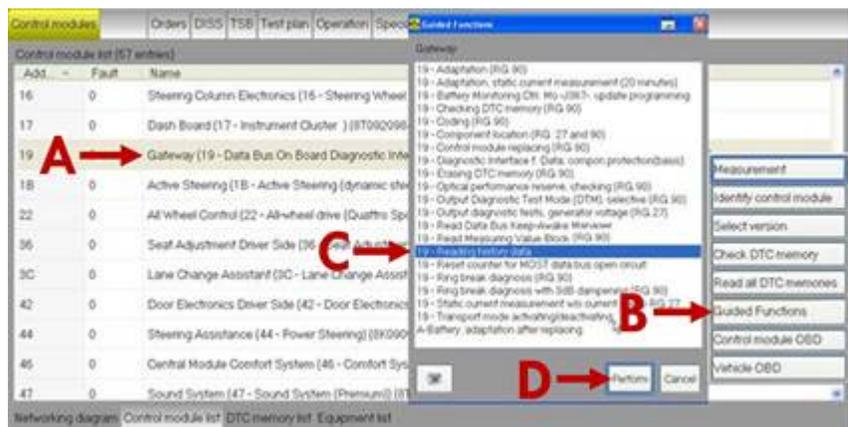

Figure 4. Accessing Reading history data through the Control modules tab.
5. Open the Control modules tab (Figure 4):
- Right-click on the **Gateway module (19)** (A).
- Select **Guided Functions** (B).
- In the Guided Functions window, select **Reading history data** (C).
- Select **Perform** (D).